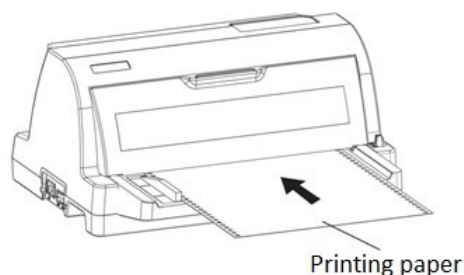

Fig. 2-14
- 5) Insert the printing paper face up as the arrow in Fig. 2-14. The printer will feed automatically the paper to the printing position. The ONLINE indicator light is on. It's ready to print.